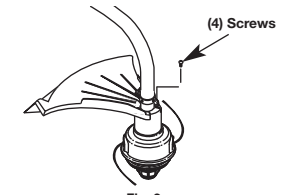

Fig. 3
3. Install the screws with a Phillips screwdriver (Fig. 3).